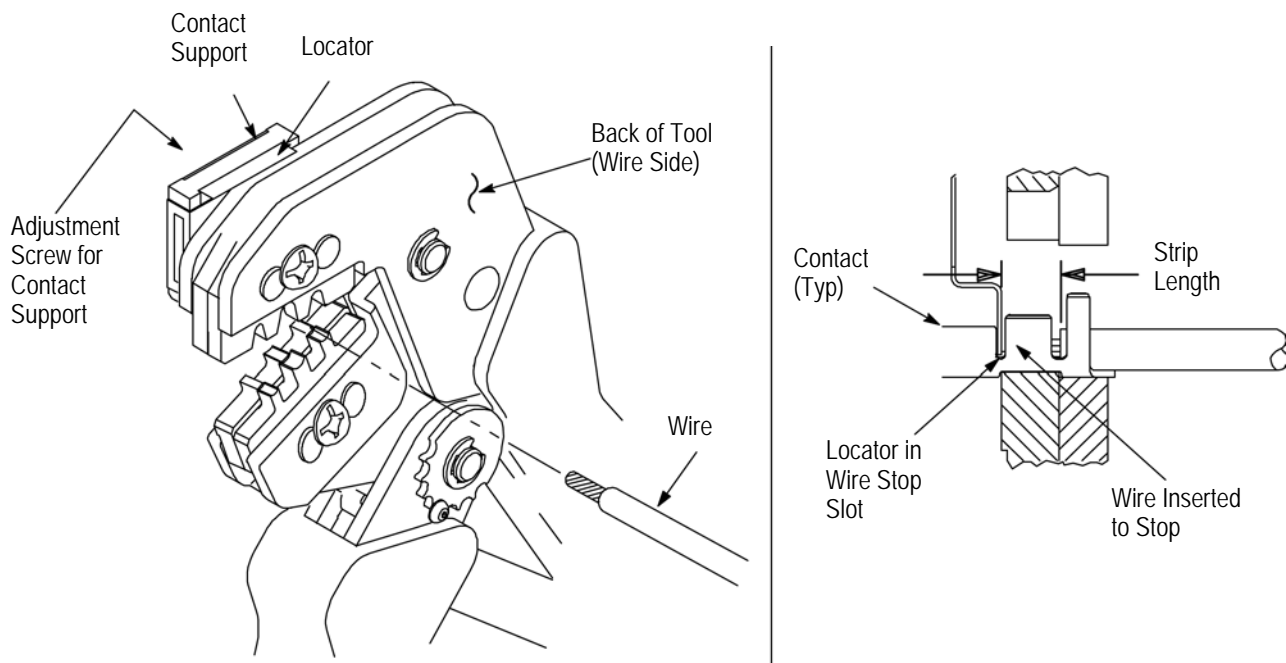

Figure 3
4. CONTACT SUPPORT ADJUSTMENT (Figure 3)
*Refer to the table in Figure 1 and select wire of the specified size and insulation diameter. Strip the wire to the length indicated in Figure 1, taking care not to nick or cut wire strands. Select an applicable contact and identify the appropriate crimp section according to the wire size markings on the tool. Refer to Figure 3 and proceed as follows:*
3. Position the contact so that the mating end of the contact is on the locator side of the tool, and so that the open "U" of the wire and insulation barrels must face the top of the tool. Place the contact up into the nest so that the movable locator drops into the slot in the contact. Refer to Figure 3. Butt the front end of the wire barrel against the movable locator.
5. Insert stripped wire into contact insulation and wire barrels until it is butted against the wire stop, as shown in Figure 3.
The crimped contact may stick in the crimping area, but the contact can be easily removed by pushing downward on the top of the locator (see Figure 3)